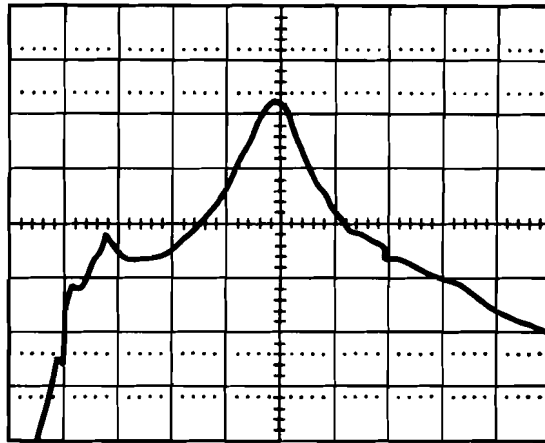

Figure 4. Typical Output Waveform. Displays YTM Bandpass
12. Adjust 3312A FREQUENCY until a single trace is obtained. Display should be similar to that shown in Figure 4.